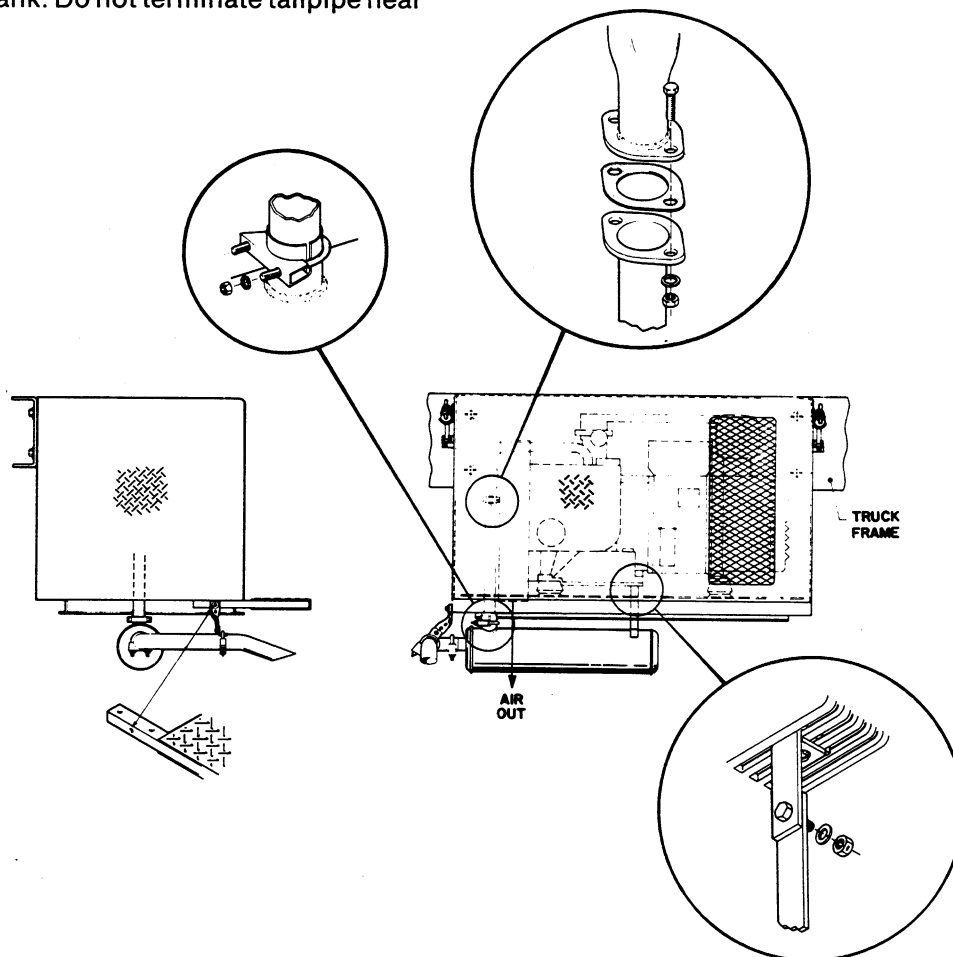

FIGURE 8. TYPICAL SIDE-MOUNTED EXHAUST SYSTEM AND TAILPIPE REQUIREMENTS
1. Connect exhaust down pipe to exhaust manifold flange and secure with 5/16-18 x 1-1/4 inch bolts, nuts and lockwashers. Install asbestos gasket between exhaust manifold flanges to prevent leaks as shown in Figure 8. Torque bolts to 11 foot pounds (15 N•m).
2. Position muffler underneath compartment mounting tray as shown in Figure 8 with outlet facing toward rear of truck. Slide inlet pipe of muffler over exhaust down pipe and support in place with blocking temporarily until opposite end (with hanger strap) is installed.
3. Route 4-3/4 inch hanger strap extending from top side of muffler through 3 inch diameter hole in the bottom of mounting tray underneath compartment. Connect this strap to a hanger strap suspended from (below) engine-to-generator adapter (but above mounting tray) using 5/16-18 x 3/4 inch bolt, flat washer and lock nut. See Figure 8.
and torque nuts to 11 foot pounds(15 N•m). See Figure 8.
5. Verify that muffler is in a level position as shown in Figure 8. Recheck and tighten all bolts, nuts and clamps.